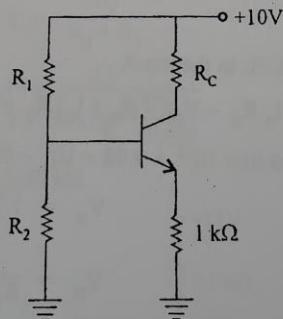

Fig. 1.58
**Example 1.21** Find  $R_1$ ,  $R_2$  and  $R_C$  of the circuit shown in Fig. 1.58 if  $I_C = 1$  mA,  $R_E = 1$  k $\Omega$ ,  $V_{CC} = 10$  V,  $\beta = 100$ ,  $S = 10$  and  $V_{CE} = 5$  V.